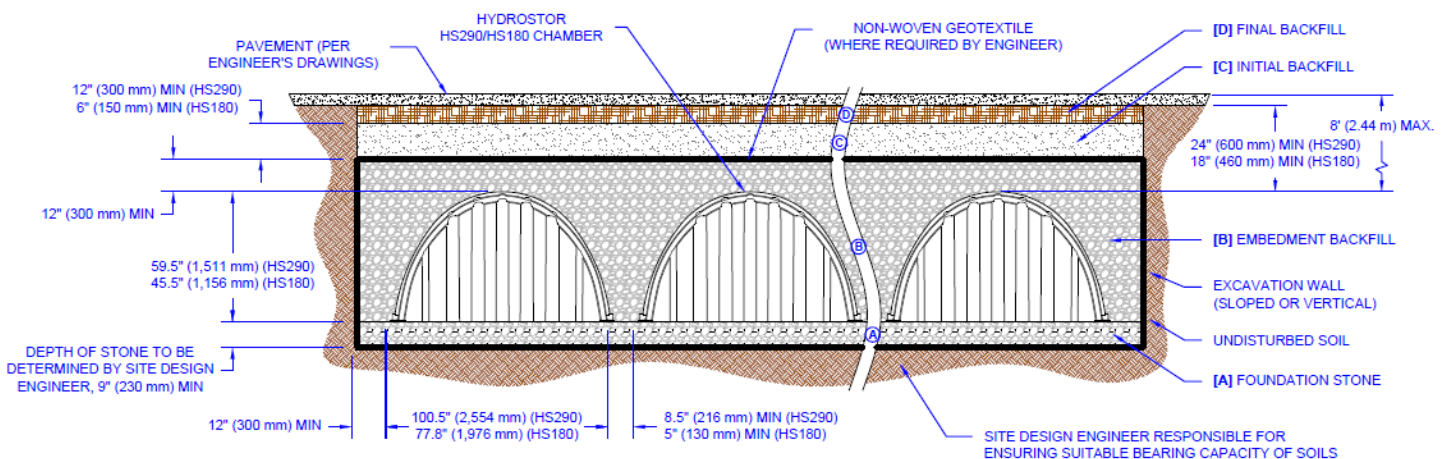

Figure 19 - Chamber Cross Section
*Reference Figure 19
*Reference Figure 19 and see following notes.